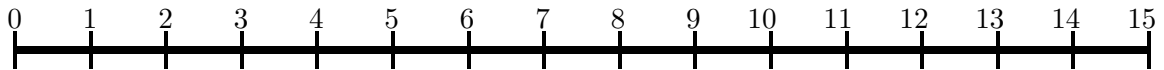

Figure 27: Ruler for characterizing the horizontal proximity sensors.
6. Locate Figure 27, the 15cm ruler, which you will use for this portion of the lab.